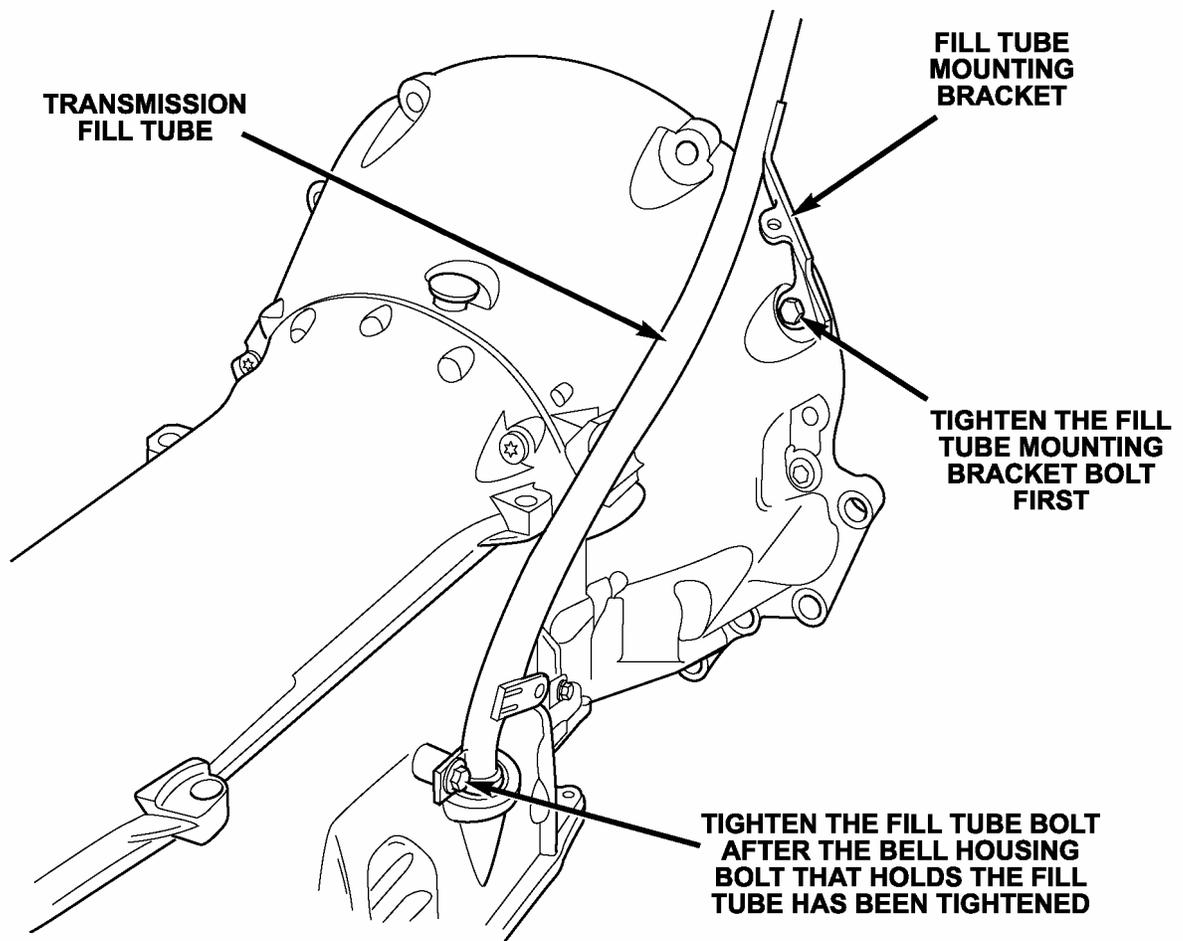

Figure 12
45. Tighten the fill tube fastener at the bellhousing first (Figure 12). Tighten the fastener to 29 ft. lbs. (39 N·m).
46. Tighten the lower fill tube fastener (closest to the fill tube seal) to 105 in. lbs. (12 N·m) (Figure 12).